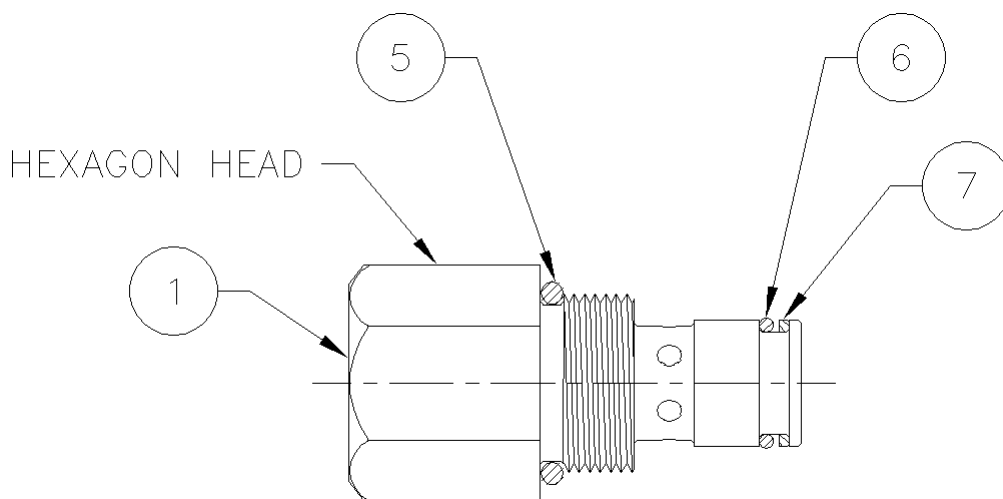

Figure D-1
1. Install the housing seal (5) (Figure D-1) in the groove next to the hexagon head of the plunger housing (1). Place the o-ring (6) and the square backup ring (7) in the groove at the end of the plunger housing as shown in Figure D-1.